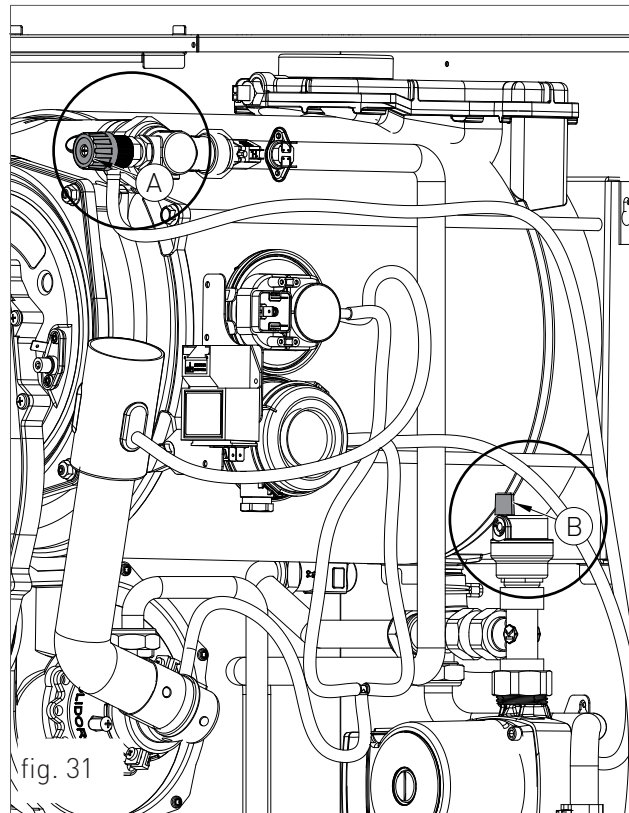

fig. 31
**WARNING** Please make sure all the air is flushed-off by means of the drain valve located within the unit (A - figure 31) and thru the air separator plug (B - figure 31).